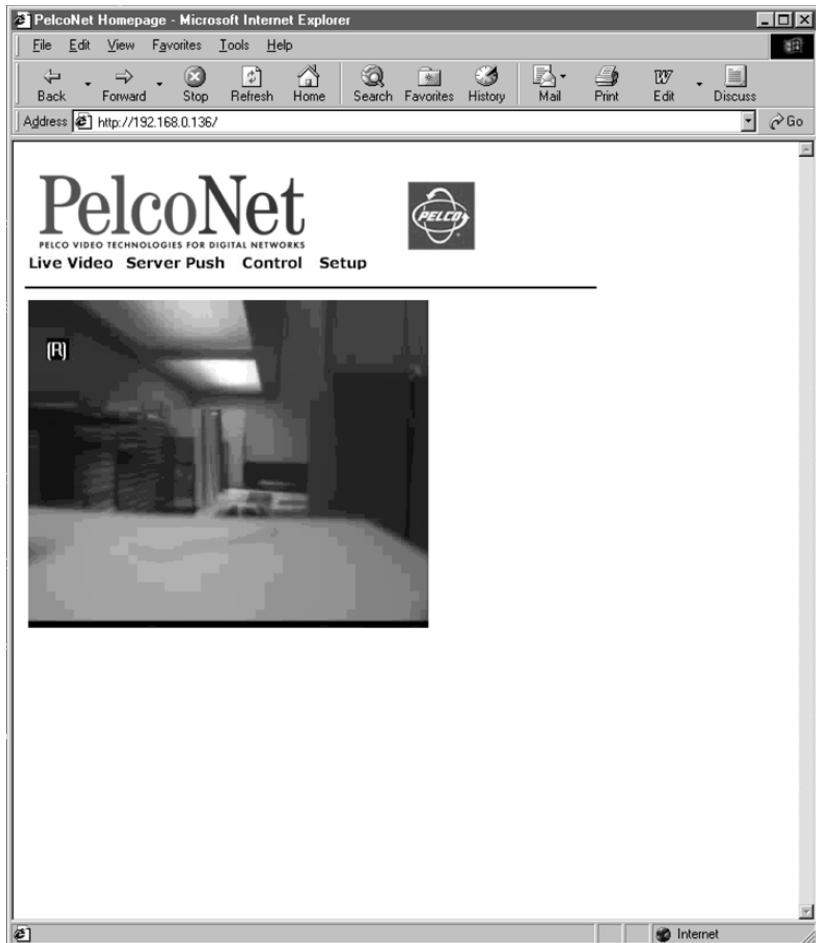

Figure 6. PelcoNet Home Page
- To activate the Live Video feature, click on **Live Video** above the video window on the PelcoNet Transmission System home page (see Figure 6). The unit transmits using the H.323 coding format for display in the browser.